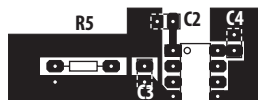

Figure 26. Top Layer of Printed Circuit Board Layout.
- Exact offset value is dependent on layout of external bypass capacitors. The offset value in the data sheet corresponds to Avago's recommended layout (see Figures 26 and 27).
In addition to affecting offset, the layout of the PC board can also affect the common mode rejection (CMR) performance of the isolation amplifier, due primarily to stray capacitive coupling between the input and the output circuits. To obtain optimal CMR performance, the layout of the printed circuit board (PCB) should minimize any stray coupling by maintaining the maximum possible distance between the input and output sides of the circuit and ensuring that any ground plane on the PCB does not pass directly below the HCPL-7850. Using surface mount components can help achieve many of the PCB objectives discussed in the preceding paragraphs. An example through-hole PCB layout illustrating some of the more important layout recommendations is shown in Figures 26 and 27. See Applications Note 1078, Designing with Avago Technologies Isolation Amplifiers, for more information on PCB layout consideration.